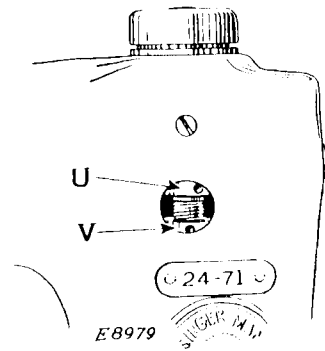

FIG. 8. ADJUSTMENT OF THREAD NIPPER
thread just as the needle bar reaches its highest point. To change the adjustment of the thread nipper, remove the plug screw in the arm just below the nipper cap, and turn the balance wheel until the nipper rises, bringing the nipper adjusting stud lock nut (V, Fig. 8) into view. Loosen this lock nut, then lower the nipper and turn the adjusting stud (U, Fig. 8) to the right to make the nipper close earlier, or to the left to make the nipper open further and close later. Then tighten the lock nut (V) and replace the plug screw in the arm.